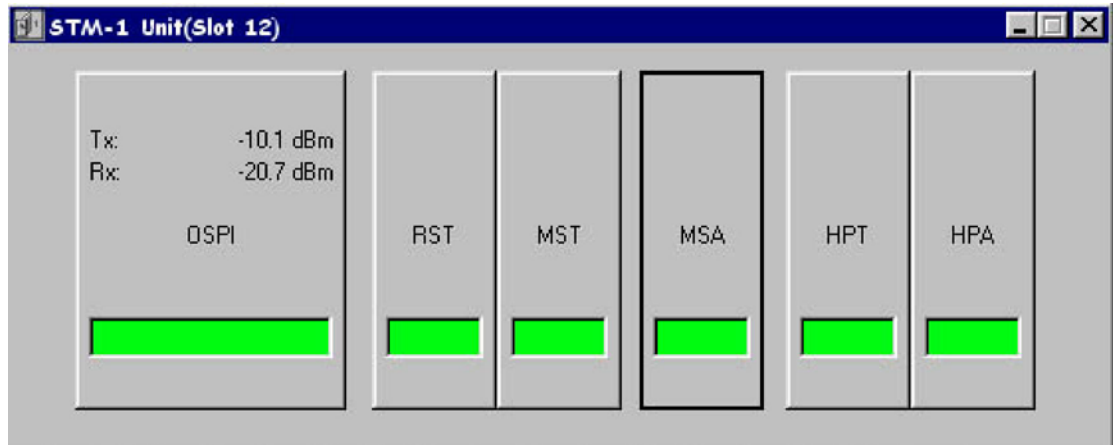

Figure 8 An STM-1 plug-in unit configuration window.
Step 2: Double-click on the STM plug-in unit that is to be examined. The window of Figure 8 appears.
Step 4: Now you need to terminate the STM-N circuits destined for the different nodes. To do this, first double-click the MSA (Multiplex Section Adaptation) button in the configuration window of Figure 8. From here choose path terminated. This means that you have terminated the VC-4 you wanted